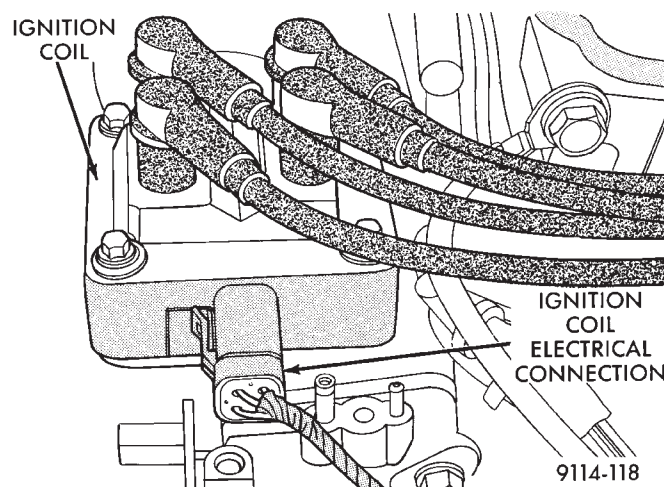

Fig. 2 Ignition Coil Electrical Connection
- (1) Check the ignition coil electrical connections (Fig. 2).